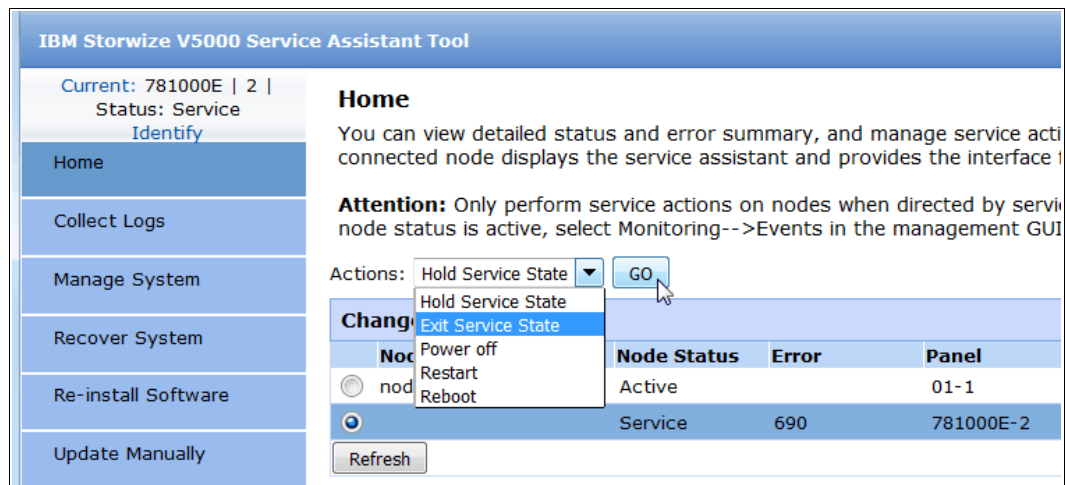

Figure 12-56 Exiting the Service state in the Service Assistant Tool
15. To exit the Service state, browse to the Home panel of the Service Assistant Tool and open the Actions menu. Select **Exit Service State** and click **GO**, as shown in Figure 12-56.